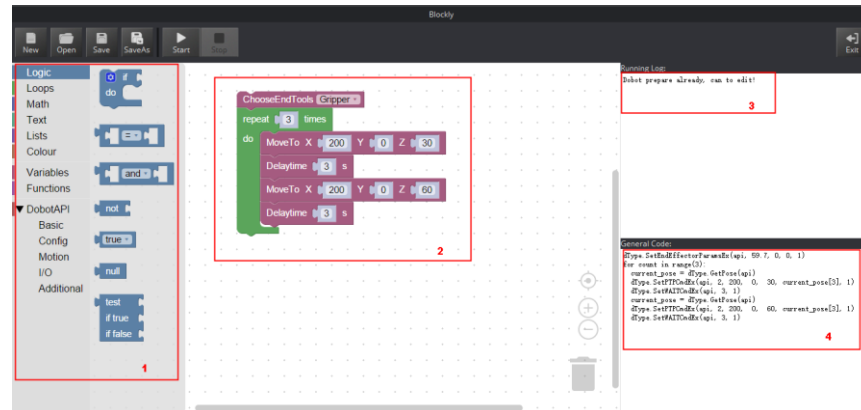

Figure 5.181 Blockly graphic programming
Step 2 Drag the blockly module on the left pane of the **Blockly** page to program, as shown in Figure 5.181.
The demo in Figure 5.181 is described as follows.